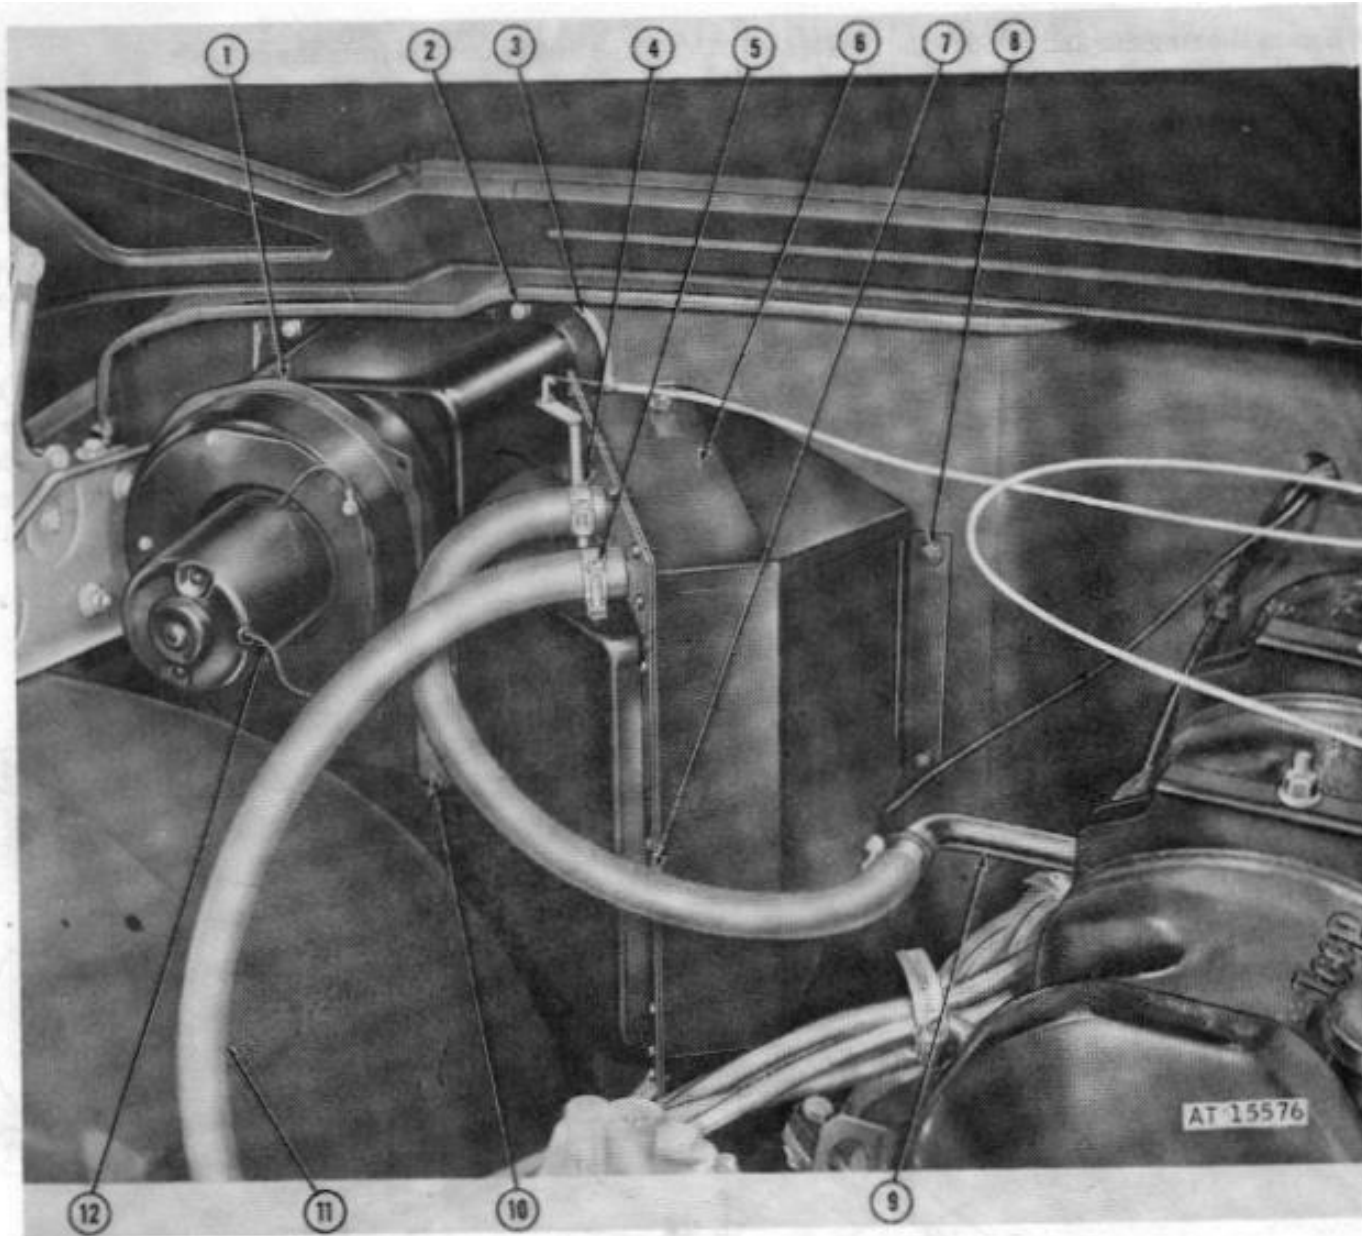

Figure 3-19 Personnel heater installation –engine compartment.
- c. By bracing or soliciting help from other personnel, hold the heater assembly in place on the dash panel (1 fig 3-19).
- d. Secure with two hex machine screws (2 fig 3-19), nuts and lock washers on the studs inside the cab.
- e. Place a bead of sealant (3 fig 3-19) around the mating flange of the blower intake mount and install the rubber seal (10 fig 3-19) at the outlet opening.
- p. From the engine compartment side, install and tighten two hex head machine screw nuts and lock washers on the studs extending through the left heater assembly mounting flange. Refer to figure 3-19.
- x. From the engine side of the dash panel, connect the waterproof connector of the heater cable assembly to the connector on the blower motor (fig. 3-19).
- ao. Refill the engine cooling system with the proper coolant. Start the engine and let the coolant warm up to normal operating temperature. If there is evidence that the cooling system is air locked, remove long hose (11 fig 3-19) on heater core to bleed air from system. Check all hose connections for leaks. Check heater operation by testing air temperature with knobs in different positions. Shut off engine and correct any faults.